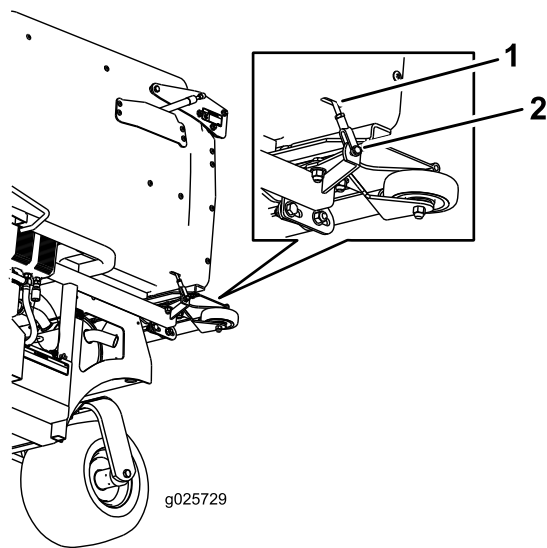

Figure 13
9. Route the cables through the cable guides and through the slots in the bottom of the hopper (Figure 13).